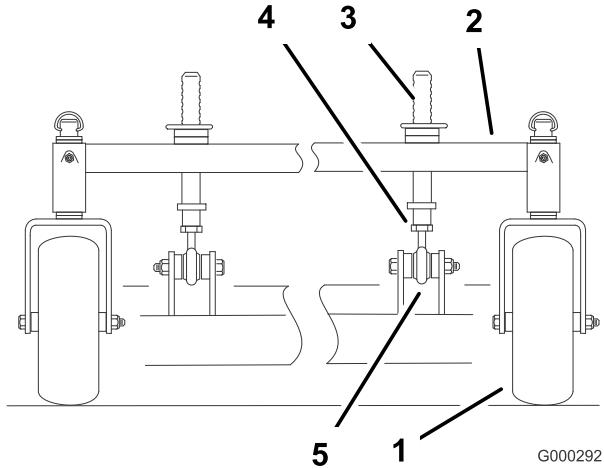

Figure 68
1. To change the front-to-rear pitch, the front height-of-cut posts can be adjusted (Figure 68).
2. To raise the front of the deck, loosen jam nut and rotate the front pin clockwise (Figure 68).
3. To lower the front of the deck, loosen jam nut and rotate the front pin counter clockwise (Figure 68).
6. Tighten the jam nuts (Figure 68).